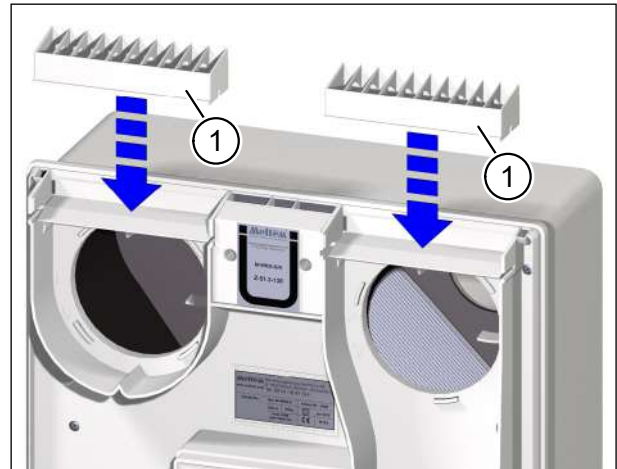

Fig. 12: Insert both air flap frames
- ▶ Attach the cleaned air flap frames (item 1 in Fig. 12) to the ventilation unit.